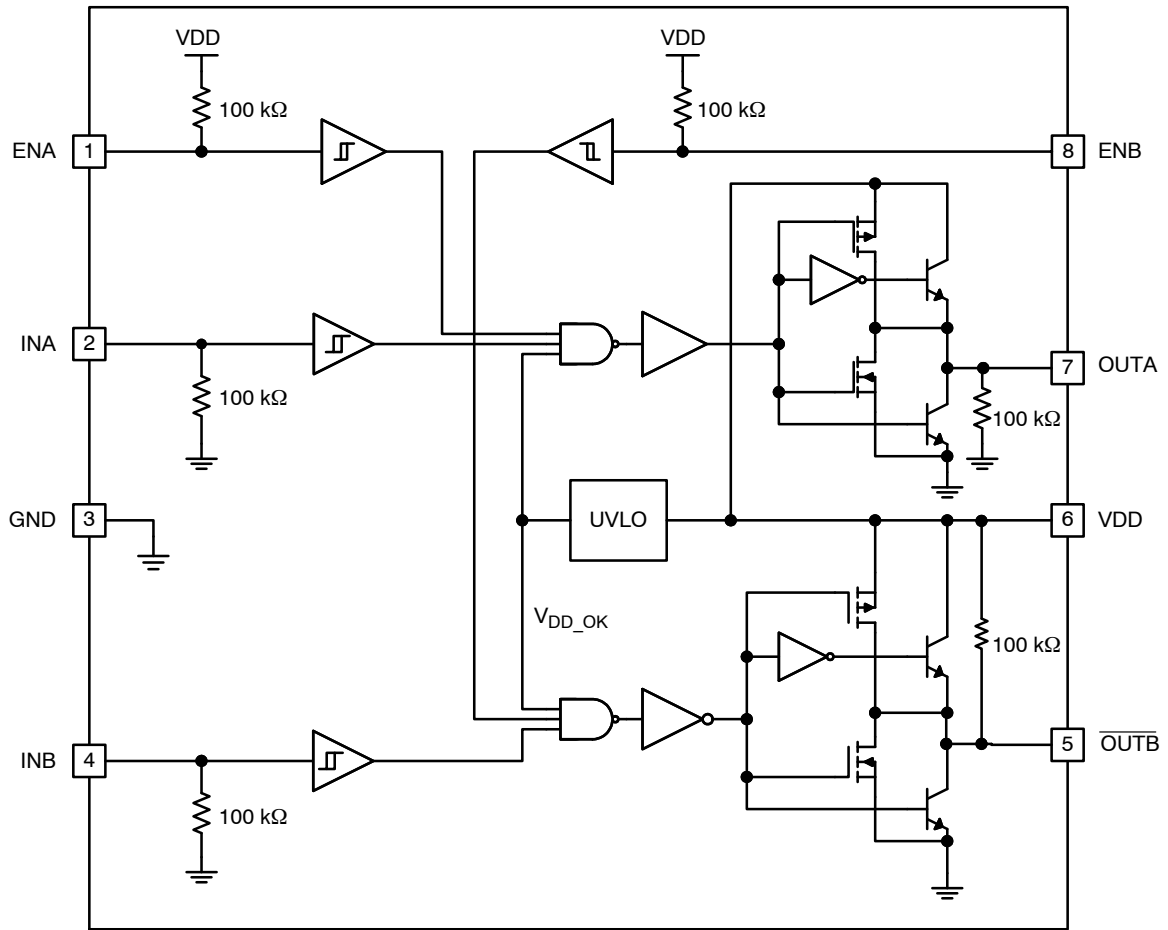

Figure 3. Block Diagram
11. For any inverting inputs pulled low, non-inverting inputs pulled high, or outputs driven high, static I_{DD} increases by the current flowing through the corresponding pull-up/down resistor shown in the block diagram in Figure 3.